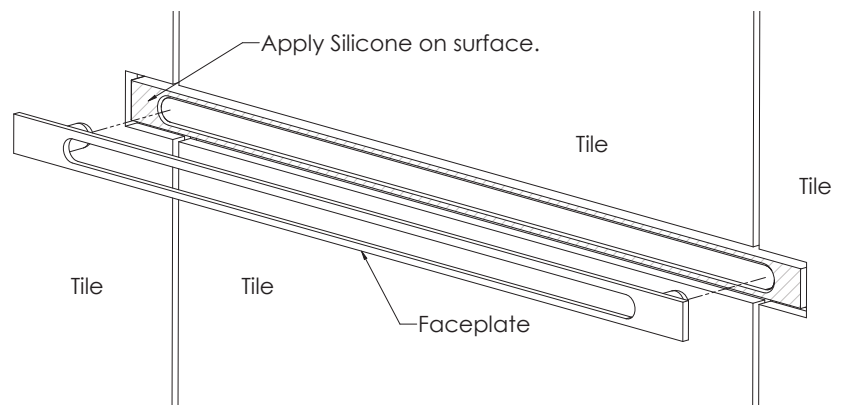

Figure 6
STEP 9. The steam head pre-installation is now complete. The wall surfacing materials (cement board, tiles, marble, etc.) can be installed. Leave a cut out in the surfacing materials around the front of Linear Steam Head as shown. Make the cut out as tight around the front of Linear Steam Head as possible. (see Fig. 6)
STEP 10. Apply silicone (supplied) to the front of Linear Steam Head. (see Fig. 6)
STEP 11. Securely press Faceplate into the opening of Linear Steam Head. (see Fig. 6)